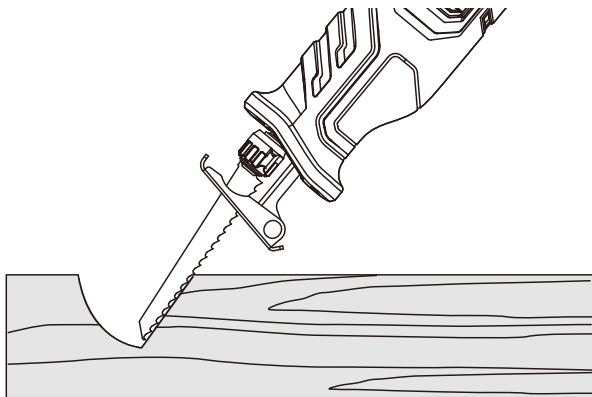

Figure 8
9. POCKET CUTTING (SOFT MATERIALS ONLY. DO NOT PLUNGE CUT IN METAL SURFACES.) (SEE FIG. 8)